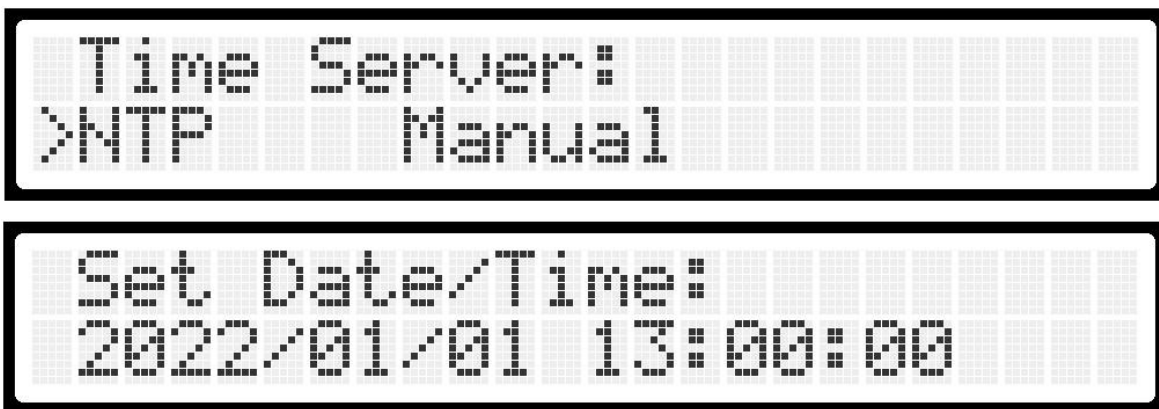

Figure 8: Date / time setting menu
- By entering the Ok key again, you enter the date and time settings section. In this section, there are two modes for setting the clock: NTP1 and Manual. Use the UP and Down keys to select each of these modes. By selecting the NTP option, the device's clock settings are automatically made through Internet clock servers. But if you select the Manual option, the window for manual date and time setting will appear and the device will exit the NTP receiving mode and you can enter the time information manually (Figure 8).